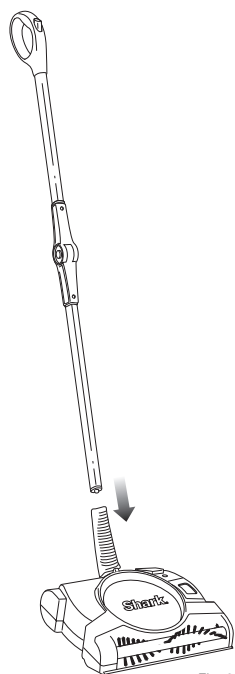

Fig. 2
- 2** Pull back on the handle and press lightly on the body of the unit with your foot to engage the steering. (Fig. 2)
- 2** Insert the Shark® Backsaver™ folding handle you just assembled into the top of the lower handle. You should hear the locking tab click into place. (Fig. 2)